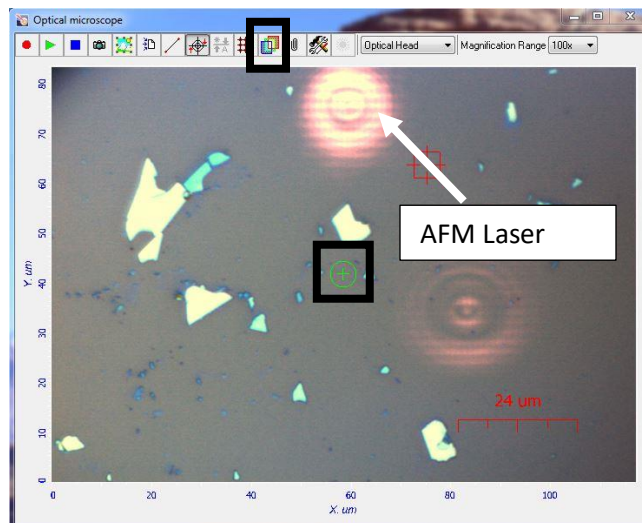
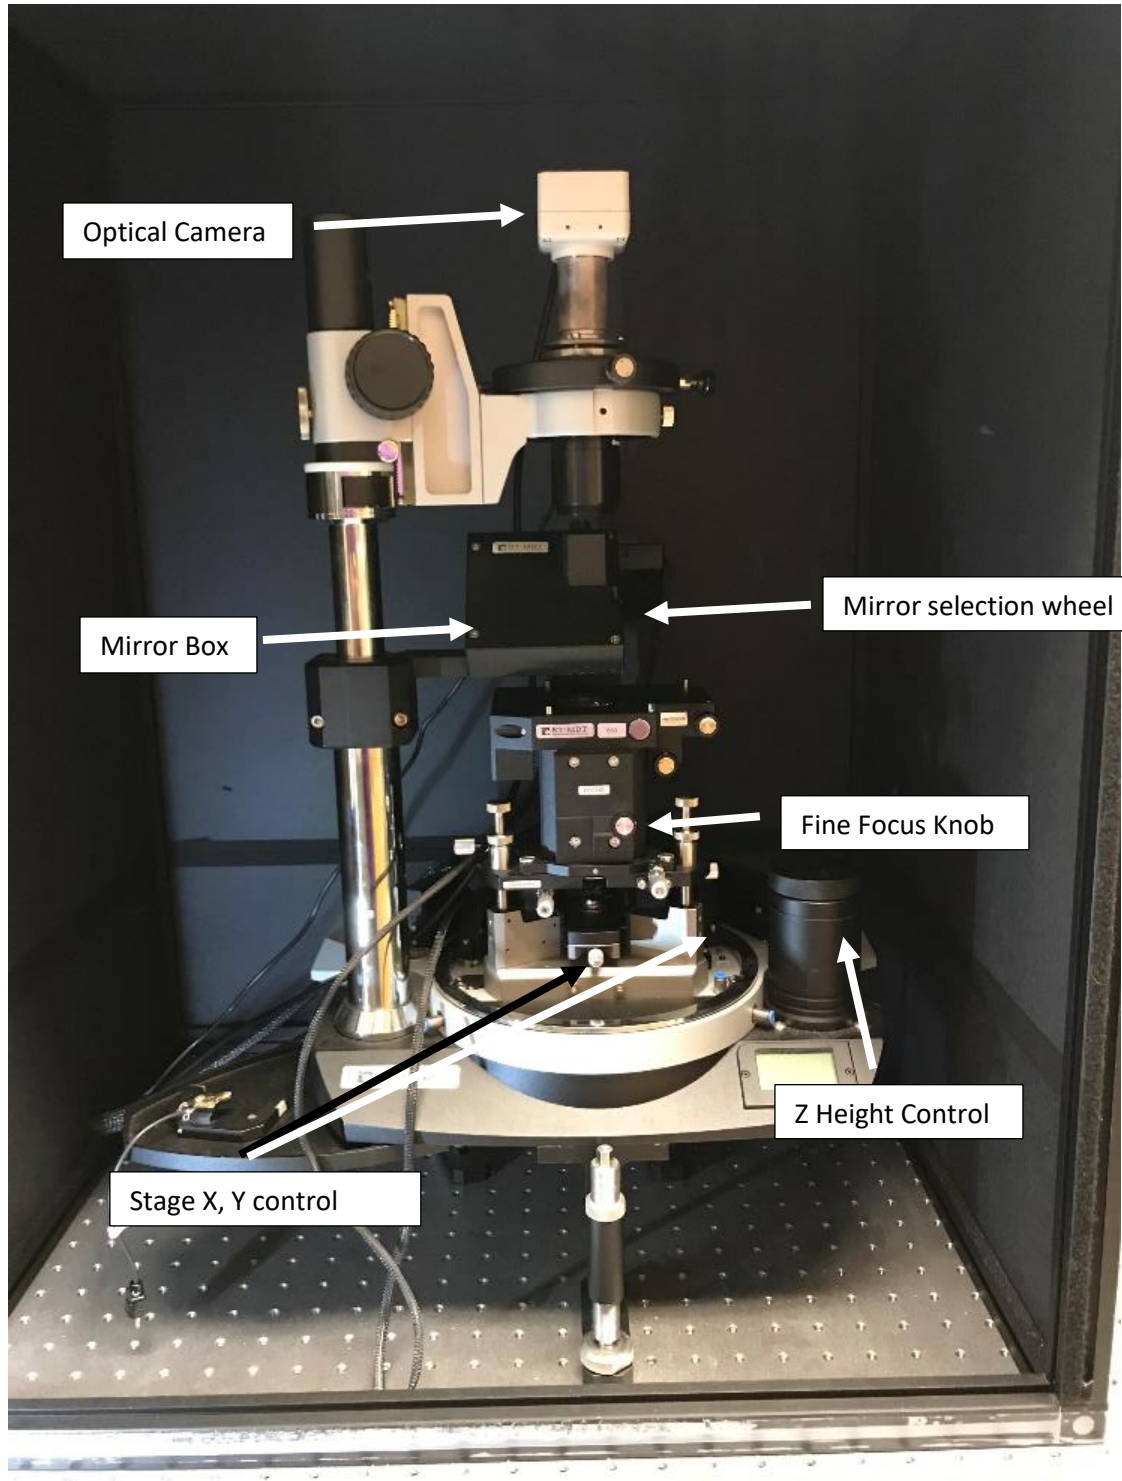
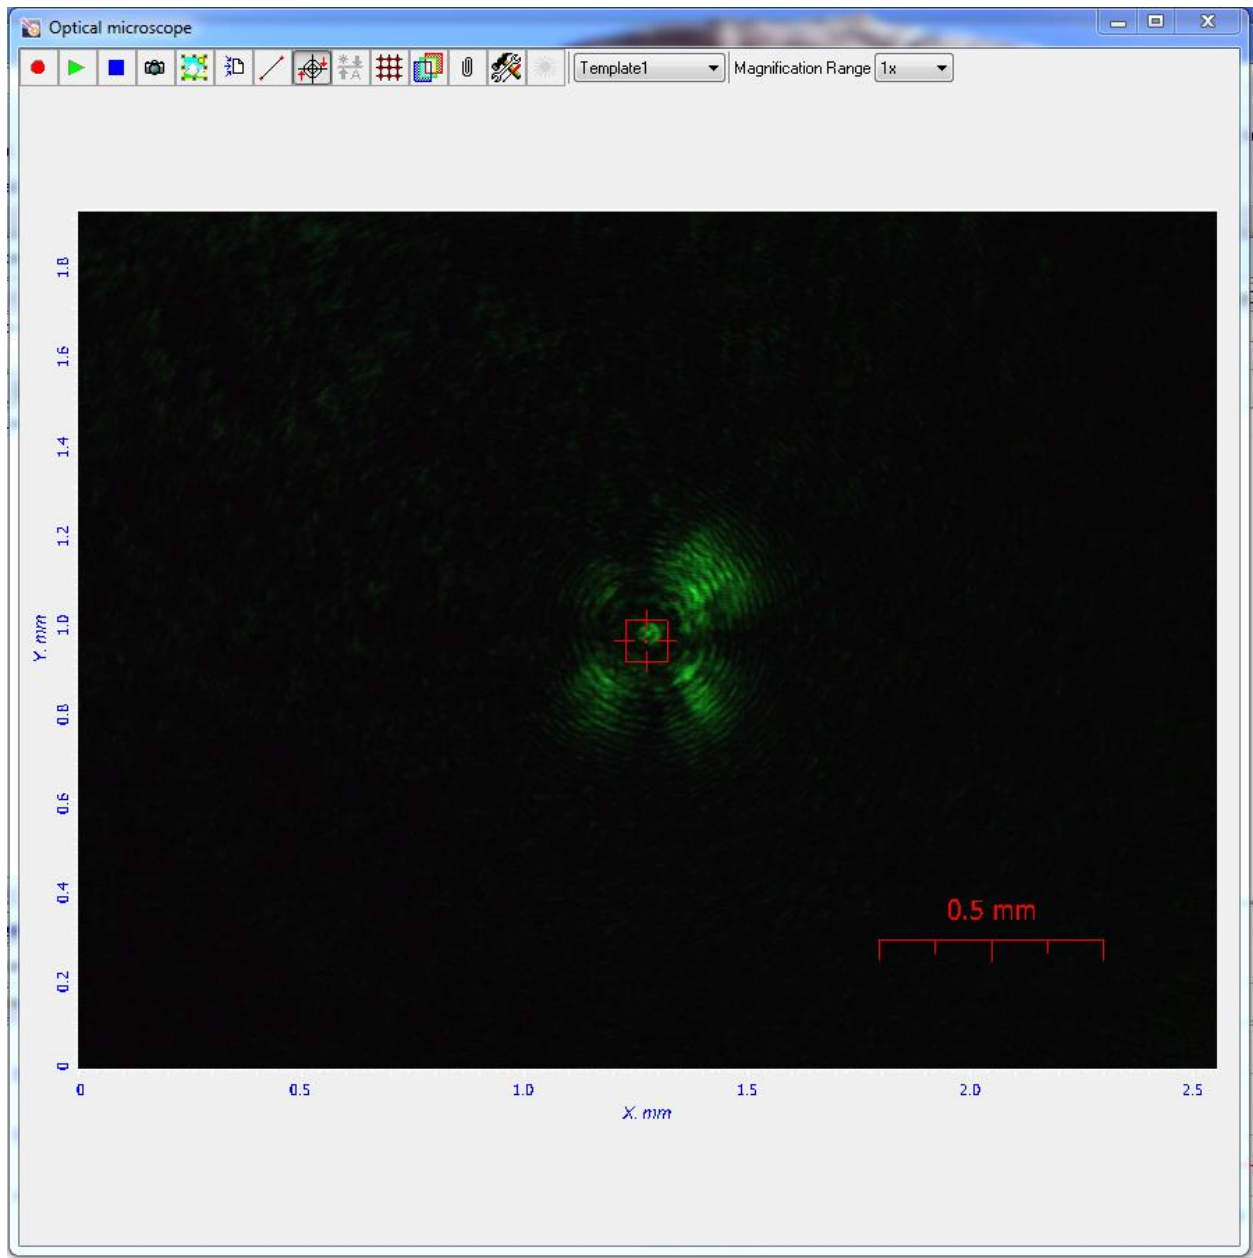
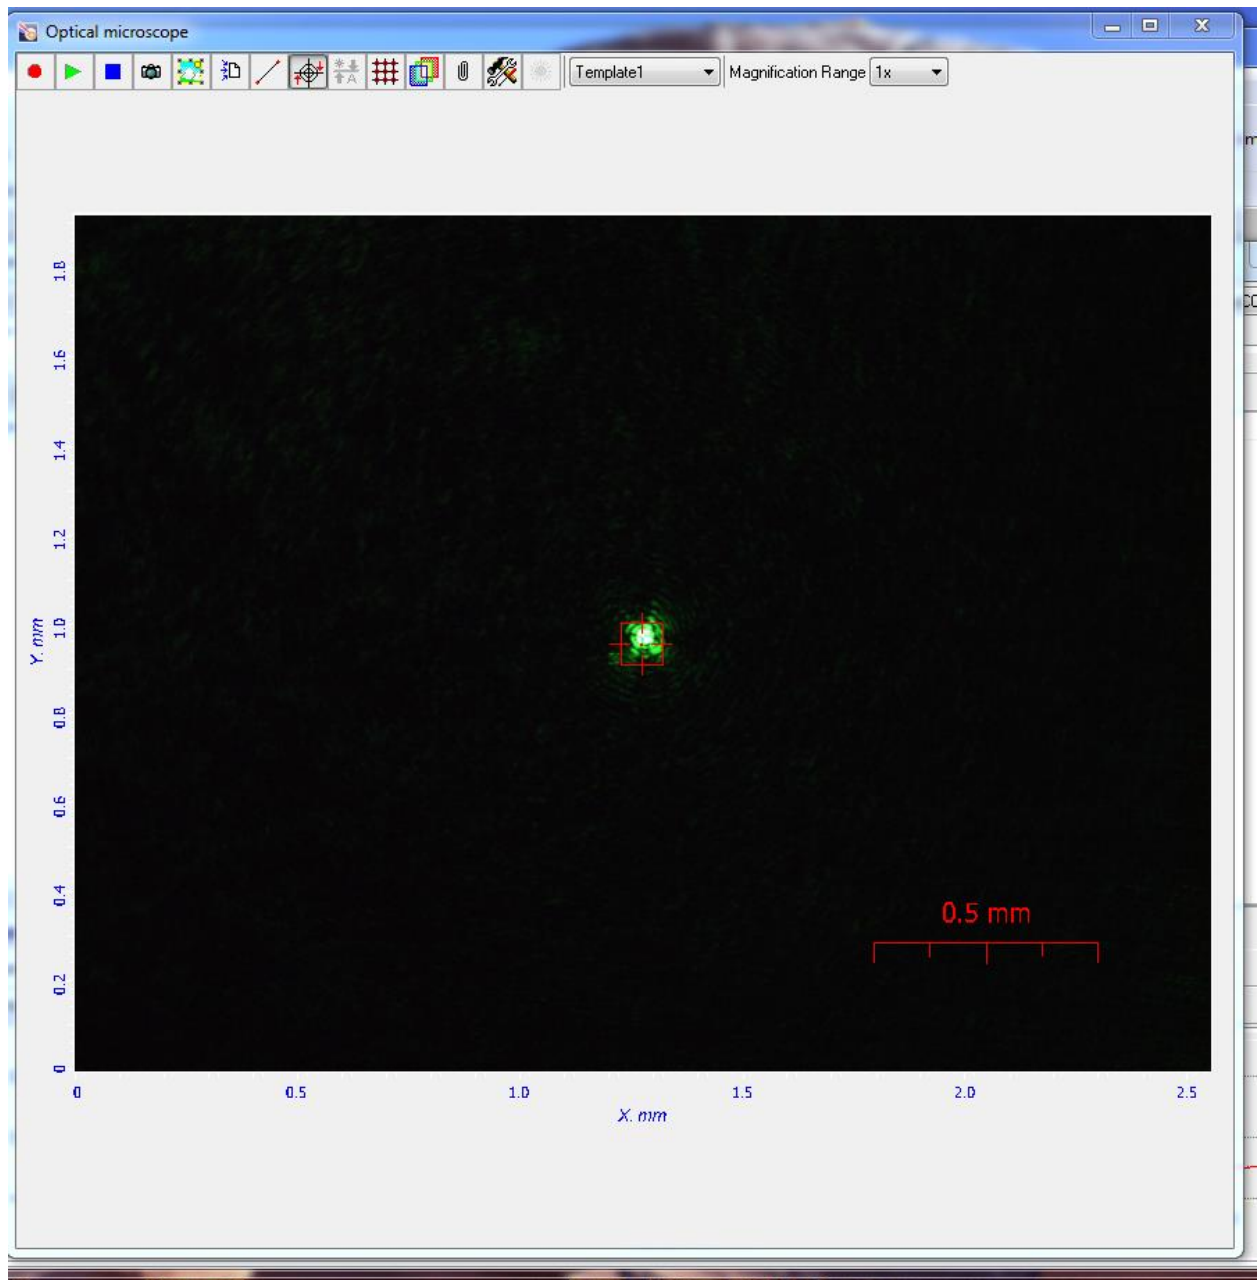

Figure 4: Example of a reflective sample
Figure 5: Overview of Raman setup
Figure 6: Laser is out of focus but close enough to switch from Z height control to fine focus
Figure 7: This is the laser focused on the sample
- To view the sample, set the mirror wheel (Figure 5) to “None”. There is a tube coming off the back of the mirror box, on the back of that tube is a switch that turns on the optical light. Make sure the light is on.
- For samples that are reflective, it should be easy to see the surface of the sample, for samples that are less reflective, increase the brightness by selecting this button (Figure 4).
- Make sure the AFM laser is off (Figure 1). If it is on it will look like (Figure 4).
- Move the X and Y controls for the stage (Figure 5) to position a spot under the cross hairs. (Figure 4)
- Set the mirror to 100%. Coarsely focus the laser on the sample starting with the Z height control (Figure 5). It should look like Figure 6 and then using the fine focus on the optical head (Figure 5) focus the laser to a point (Figure 7).